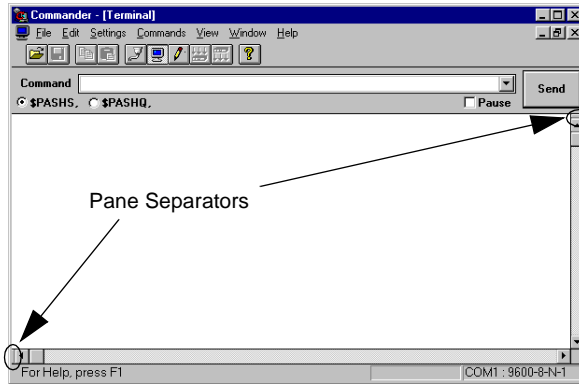

Figure 2.23: Terminal Window
The **Terminal** window (Figure 2.23) has four panes which can be customized for your particular needs. For example, to ease viewing receiver communications, you may wish to set one pane to display only NMEA messages, a second pane display
1. Drag the pane separators (Figure 2.23) along the vertical and horizontal scroll bars to size the panes as needed.